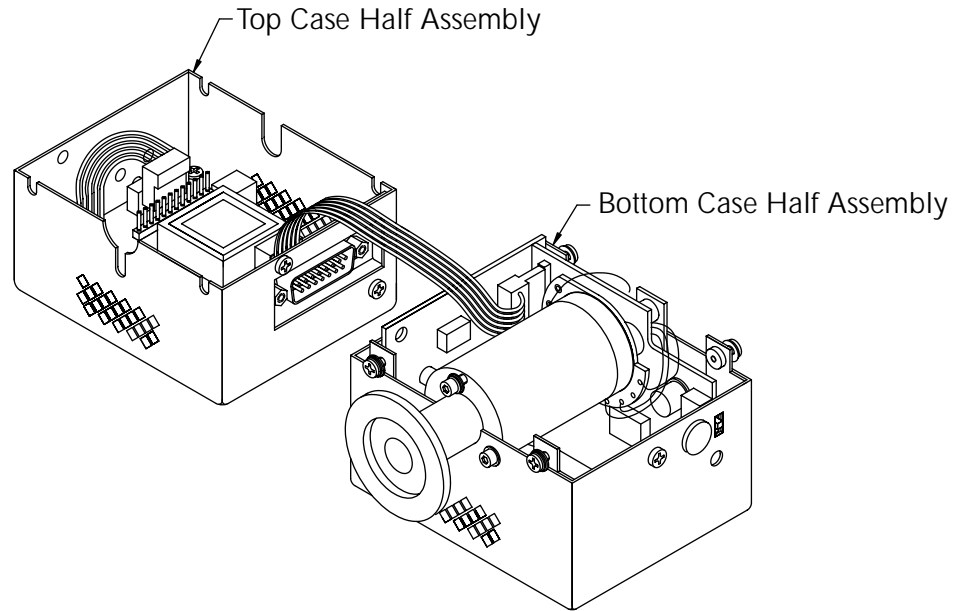

Figure 2 Removal and Placement of Top Half Case Assembly
2. Remove top half of case assembly and place next to bottom case half assembly as shown in Figure 2.